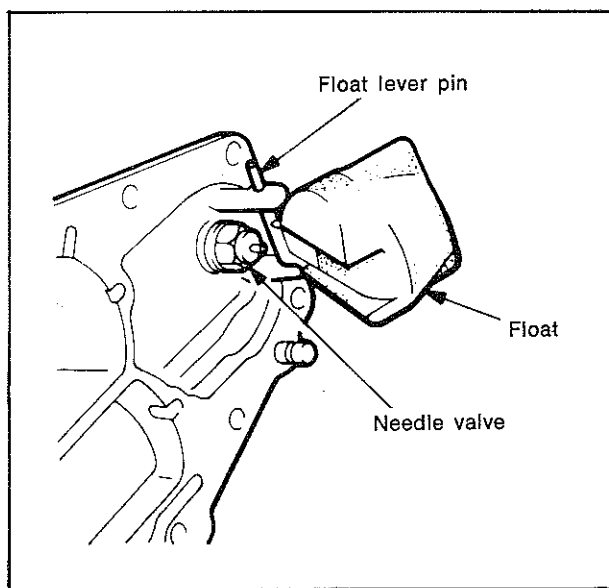

Fig. 20—Removing float
(7) Remove the float lever pin and the float. (Fig. 20).
(8) Remove the needle valve assembly, gasket and filter.
(9) Do not remove the automatic choke system because the factory setting will be affected.
(10) Turn the main body upside down and remove the pump discharge check ball and weight.
(11) Remove the fuel cut-off solenoid.